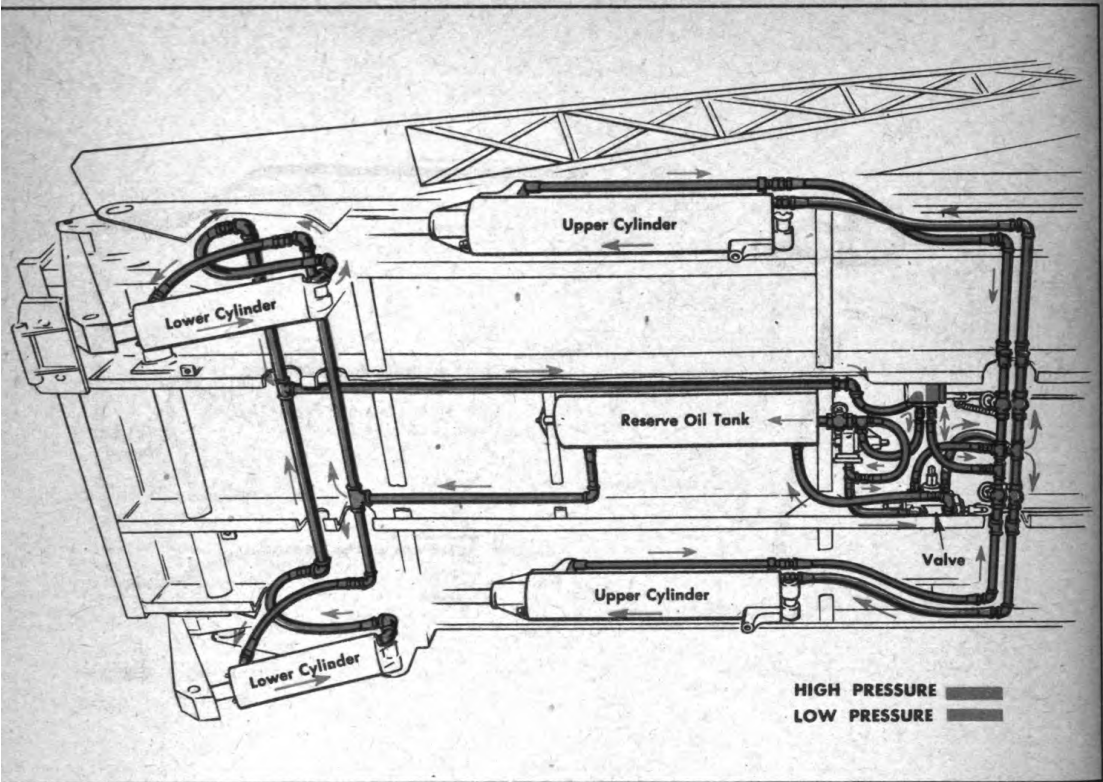
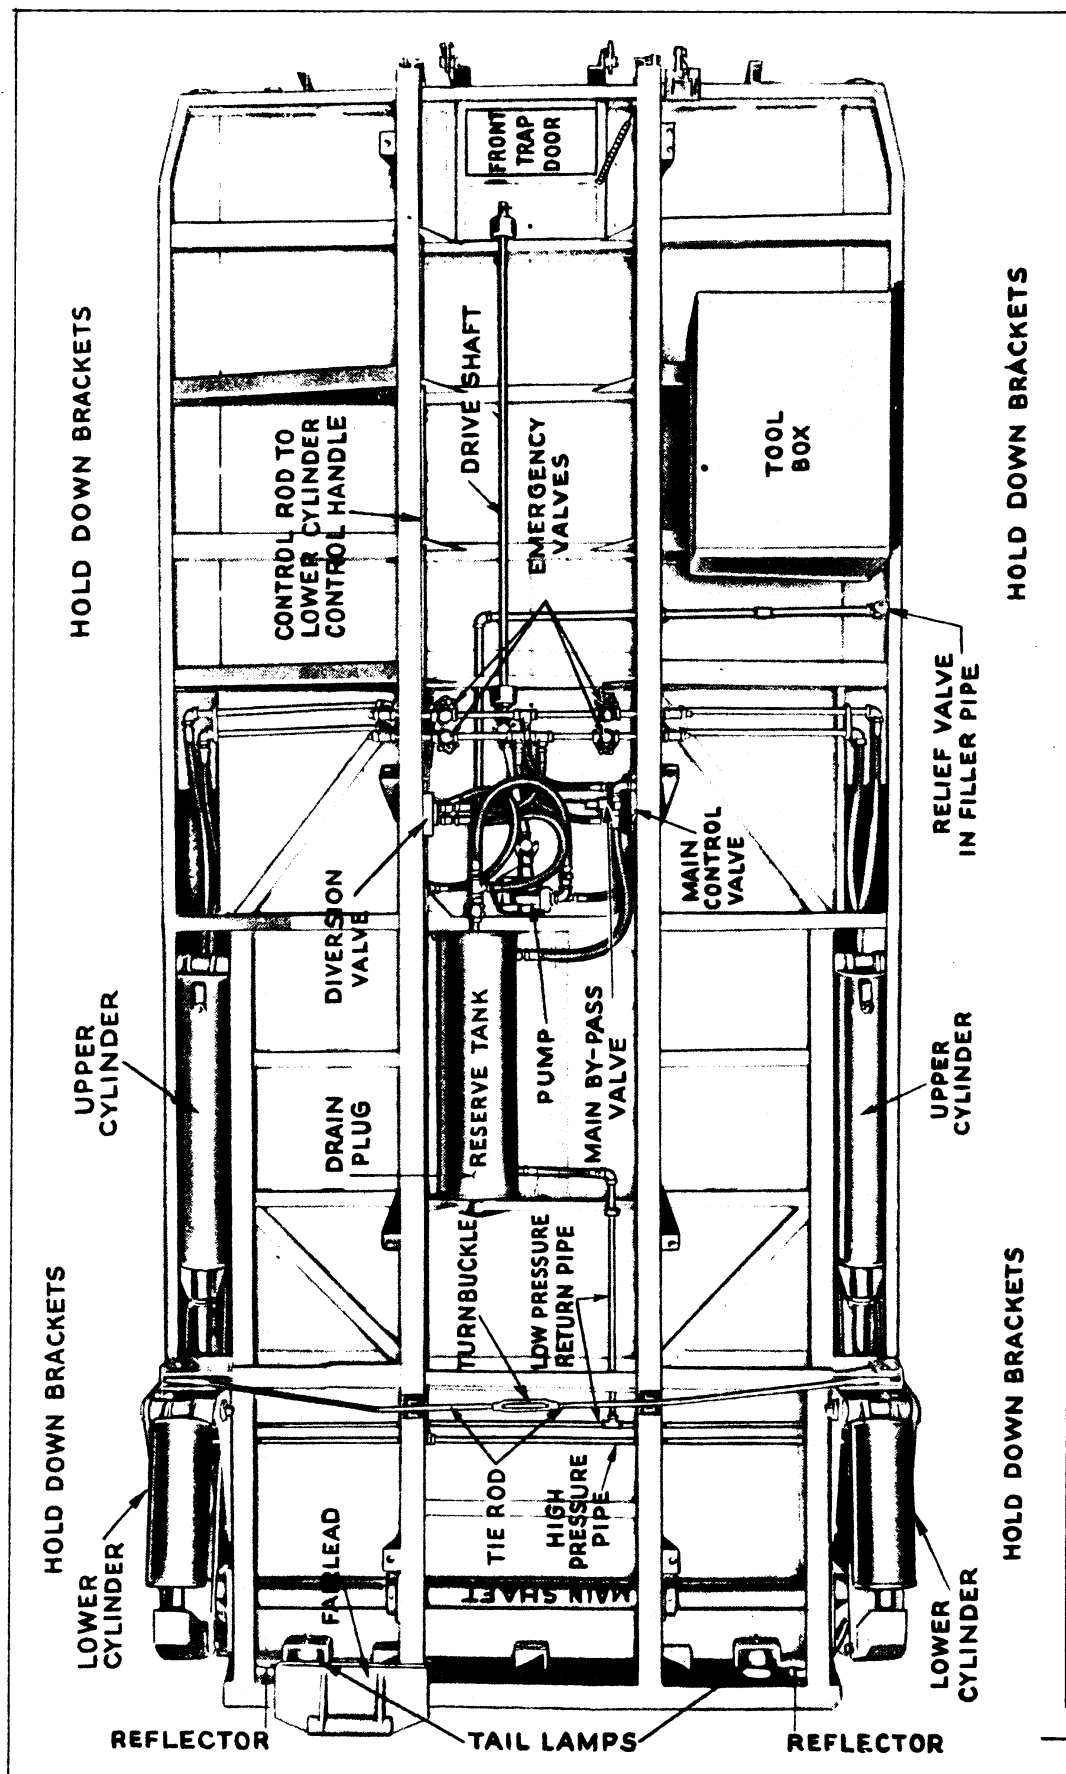

Figure 7. Valve Lever Toward Rear of Truck
Figure 11. Understructure Showing Arrangement of Hydraulic System
(5) The hydraulic system which operates the crane is explained in Figures 7 to 10, inclusive. The hydraulic pump, which is driven by the truck engine through a power takeoff and drive shaft, forces the oil through the system to operate the cylinders. The flow of oil is controlled by one Main Valve and one Auxiliary Diversion Valve. (See Figure 11.) The function of the Diversion Valve is to permit the retraction of the piston rods in the Lower Cylinders. A reservoir (or reserve on tank) provides sufficient oil to replace that displaced by the piston rods when the pistons are retracted. This extra oil is required as the pistons are extended.
Provision is made to operate the unit with either of the upper cylinders, (i.e. one upper cylinder may be damaged and the crane may be still operated with a reduced load). To accomplish this, close the two emergency valves (Figures 11 and 17) in the high and low pressure lines on the side which is damaged. Remove the pin of the damaged cylinder, which attaches the end of the piston rod to the boom.